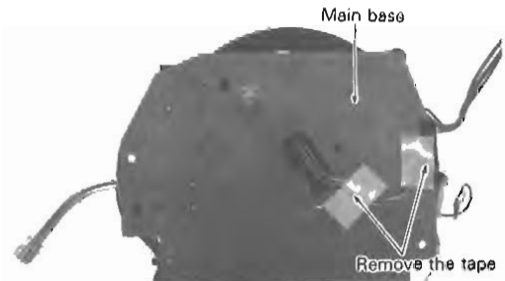

Fig. 20
- (1) Position the five leads from the sensor arm evenly around the arm shaft, slip the tube over the leads and then anchor the leads.
- (2) Wind tape around the six leads from the tone arm and the five leads from the sensor arm as close to their base as possible. (Tape width: 2-4 mm; length: 20 mm)
- (3) Assemble the full-auto mechanism assembly onto the adjust shaft, rotate the height adjust knob and lower the tone arm to its lowest point.
- (4) Remove the tone arm from the arm rest and bring the headshell to the outer circumference of the platter.
- (5) After re-attaching the leads in this position as shown in Fig. 20, taking care not to twist them, anchor the leads to the main base with tape. Bend the leads about 10-13 mm down from the main base. When re-attaching the bottom panel, take care not to sandwich the leads between the bottom panel boss and the main base.